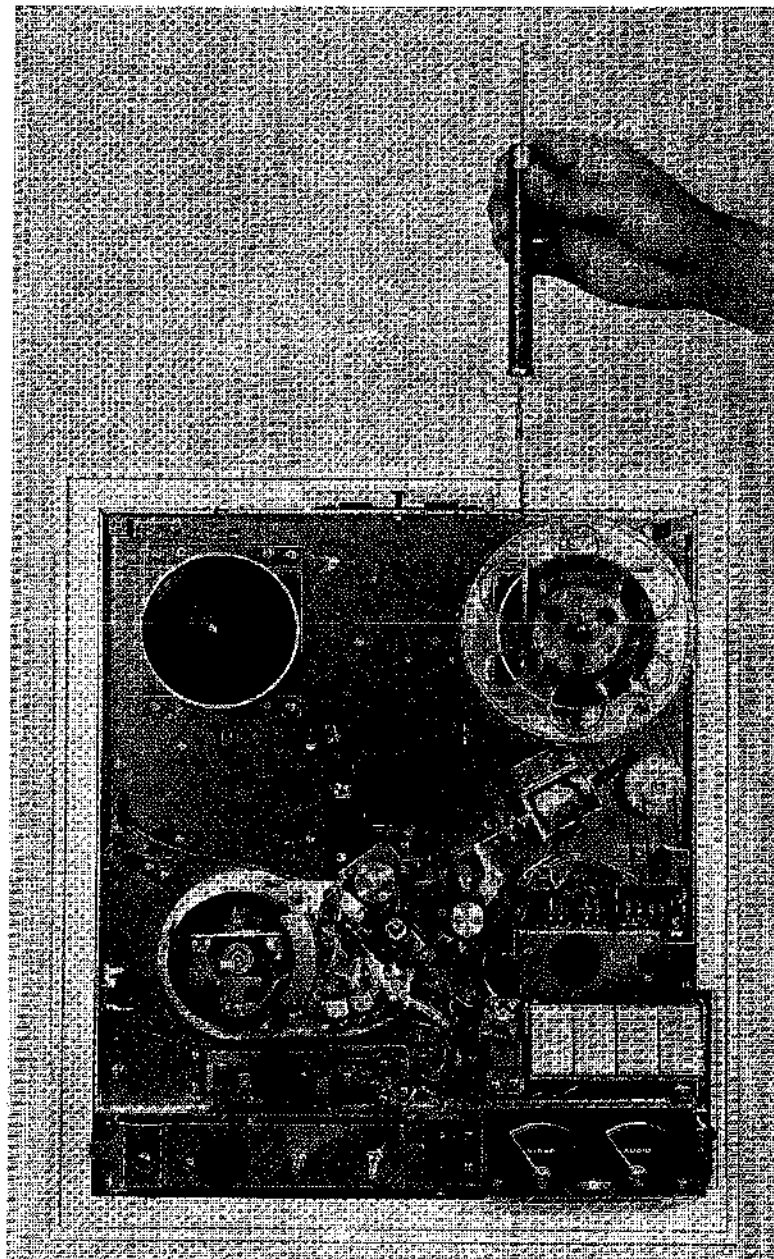

Fig. 5 Take-up Torque Measurement
- (a) As shown in Fig. 5, connect a 0 to 300 gram Spring Gauge to a 60 mm (2.36") diameter tape and measure Take-Up Torque. (Playback Mode).